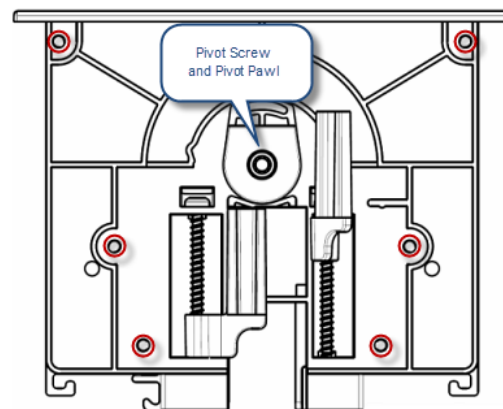

FIG. 4 HYDRAPORT BASE ASSEMBLY (SHOWN MOUNTED) - MOUNTING/PIVOT SCREW LOCATIONS
FIG. 4 provides a cutaway view of the End Cap, showing the retaining tabs in both the loose position and the tightened (secure) position:
2. Tighten the four mounting screws (loosened in Step 1, see FIG. 4) located inside and at each end of the HydraPort base assembly, to rotate the retaining tabs into locking position under the mounting surface.